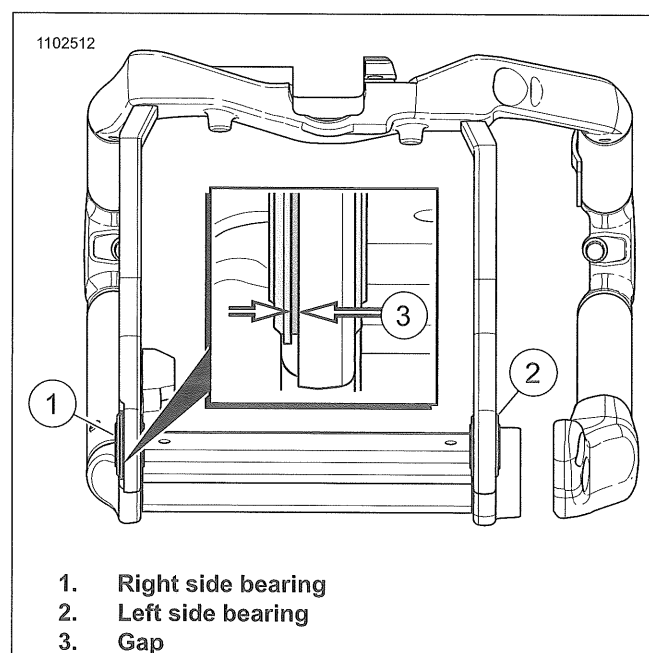

Figure 3-87. Rear Fork Bearing Gap
- e. See Figure 3-87. Press right bearing into fork bearing bore leaving a gap.